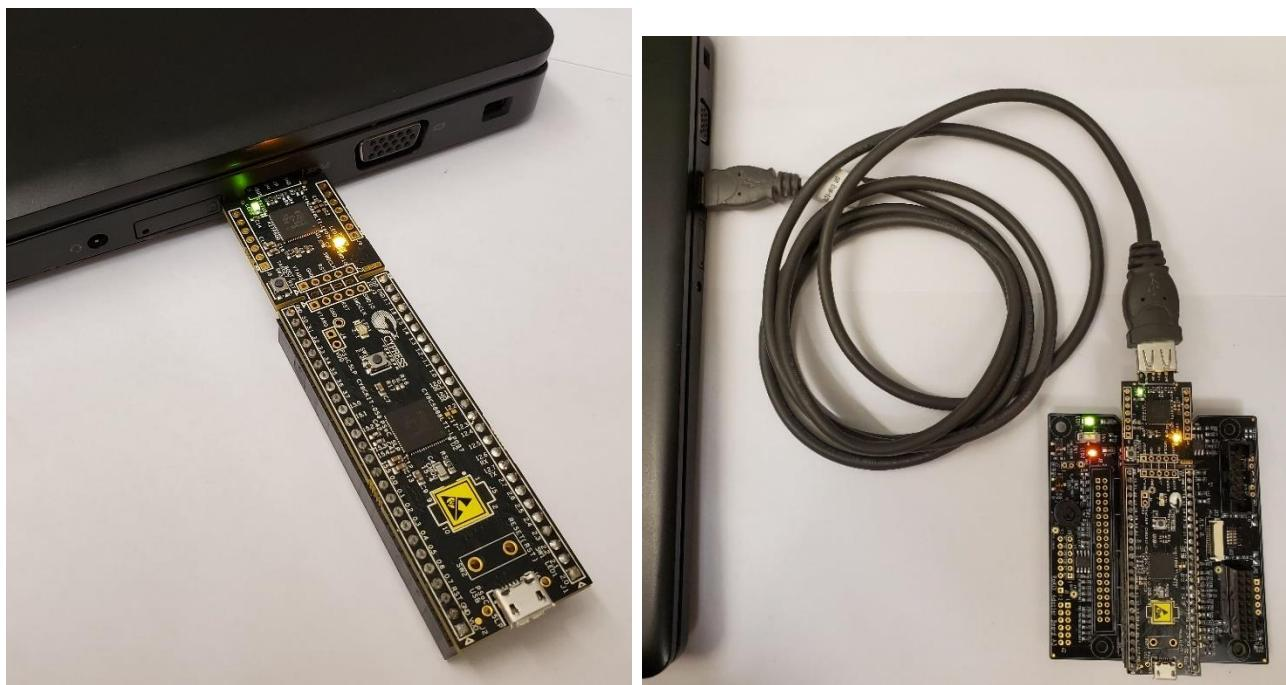

Figure 22. CY8CKIT-059 *Prototyping Kit* Connected to the PC
3. Connect the CY8CKIT-059 *Prototyping Kit* into the USB port of the PC directly or with an *USB extension cable A-Male to A-Female* as shown in Figure 22 (note that firmware flashing is always done via USB-A PCB connector, not micro-USB connector on the other side of the board).